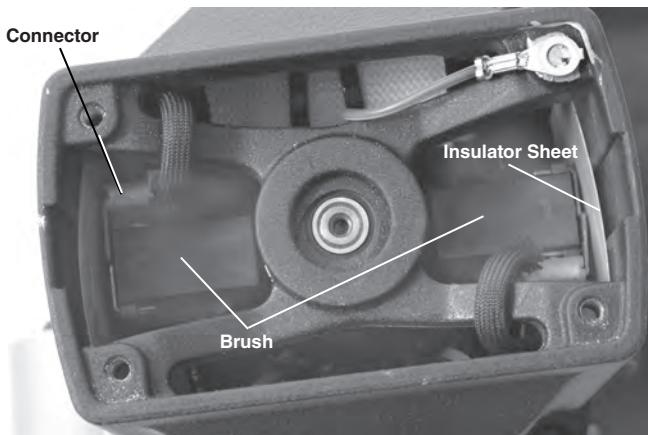

Figure 27 - Brush Placement - Motor Cover Removed
3. Using a pair of pliers, pull the motor brushes straight out. Detach the connector. (See Figure 27)